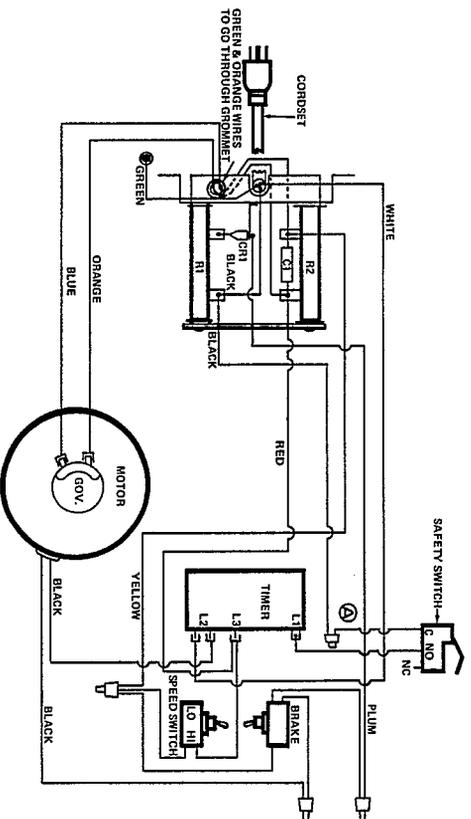

Figure 13. SERO-FUGE II Centrifuge Wiring Diagram.
2. Remove the eight connectors from the old Nameplate Assembly and transfer to the new Assembly according to the Wiring Diagram in Figure 13.
2. Remove Timer Switch, Speed Switch or Brake Switch by removing the appropriate mounting nut from front of Nameplate Assembly. Replace with the new component and re-wire according to the Wiring Diagram in Figure 13.
3. Remove one Motor Lead from the center terminal of the Brake Switch and the other from the Timer terminal (see Figure 13).
6. Connect the Motor wires to the Nameplate Assembly (see Figure 13).
3. Remove the white Cordset wire from Timer terminal L-2 and unsolder the black Cordset wire from resistor R-1 (see Figure 13).
3. Referring to Figure 13, cut old Safety Switch lead at wire splice (A). Disconnect other lead of old Switch from Terminal L1 of Timer. Remove old Safety Switch.